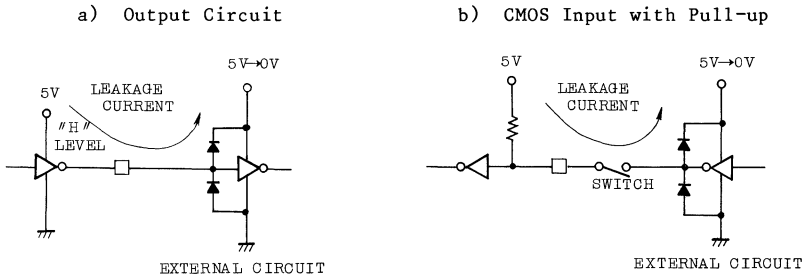

Fig. 3.2 (24) HOLD Operation
In the hold operation, care should be taken to see that no current flows in the interface with an external circuit. In case where the power supply for external circuit is dropped to 0V, it is required that the output terminals are forced to the "L" level before they start the hold operation, because if the output is at the "H" level as shown in Fig. 3.2 (24) a) "Output Circuit", sometimes the current flows through parasitic diodes, etc. of external circuit. Special attention should be paid to the CMOS input circuit with pull-up shown in b), and it is necessary to use the input circuit by such a method as the current pass is cut off by means of a switch or the like.